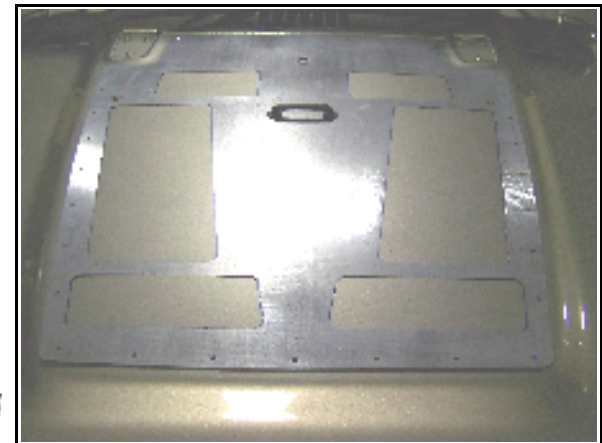

Figure 1
Step 3 - Place steel template in the center of hood as seen in (Figure 1).